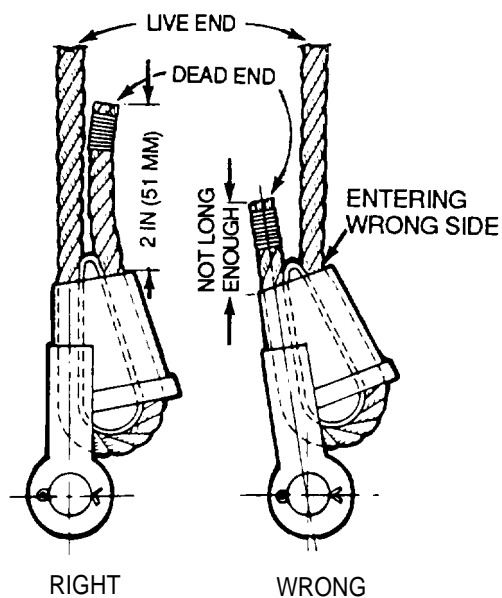

Figure 4-38. *Installing the Wedge Socket et*
- Place the socket in an upright position and bring the rope around in a large, easy-to-handle loop. Care must be taken to make certain that the live-loaded-side of the rope is in line with the ears (Figure 4-38).